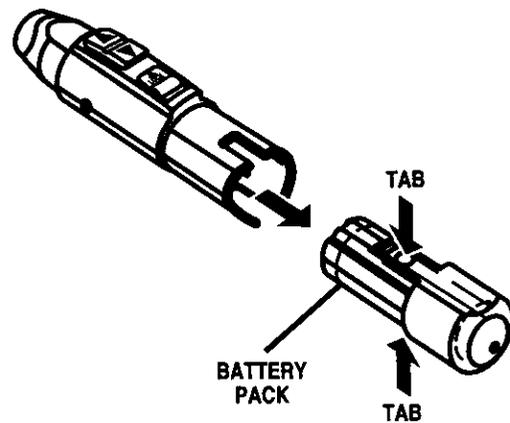

Fig. 6
See Figure 6.
- Remove battery pack from mini driver by depressing tabs located on battery pack then pull on battery pack in the direction of the arrow as shown in figure 6.